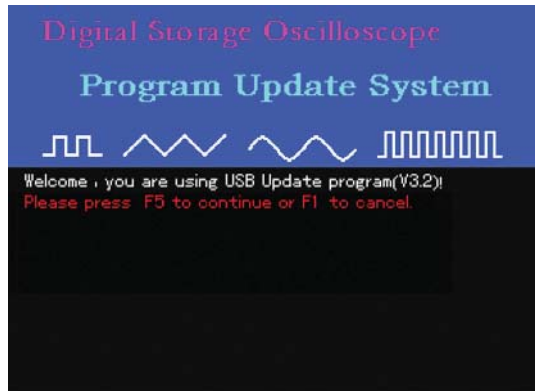
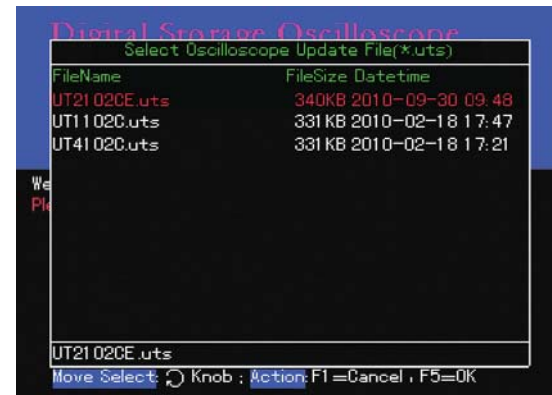

Figure 5-1
Figure 5-2
- 2.Press [POWER] to power on the Oscilloscope and enter the program upgrade system welcome screen, as shown in Figure 5-1. The following message be appear, “Welcome to the USB program upgrade system. Please press [F5] to start upgrade or [F1] to cancel”.
3. Press [F5] as shown in Figure 5-1 to start the program upgrade operation. If there is only one upgrade pack in the USB root directory, go directly to step 4. Otherwise the upgrade document selection screen shown in Figure 5-2 will pop up. Use the jog dial to select the document you need, then press [F5] to confirm. To exit upgrade, press [F1].